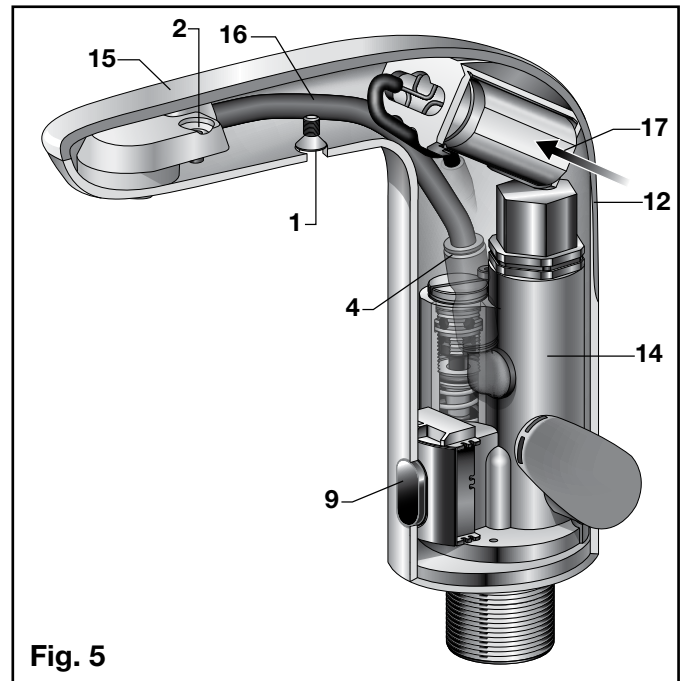

Fig. 5
B REPLACE BATTERY; Fig. 5, 6
3. Push BATTERY (17) forward and Pull it out. (Fig. 5)
C CHANGE SENSOR RANGE; Fig. 5, 6